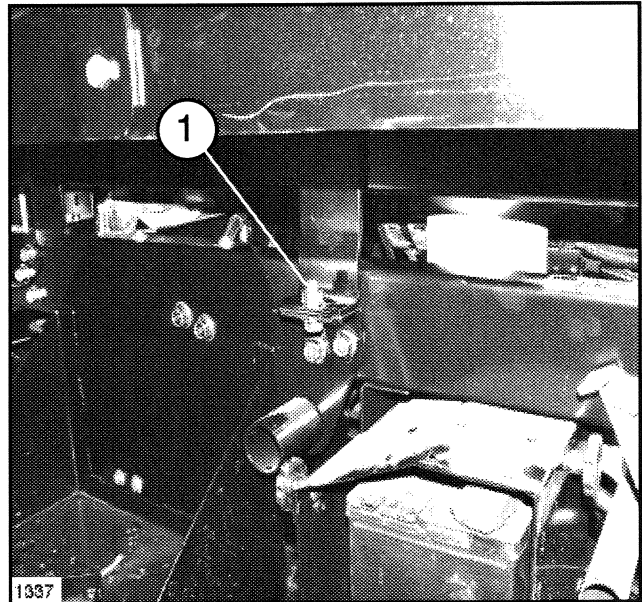

Fig 1
F. Remove bed's Front Securing Bolts, shown in Figure 1.